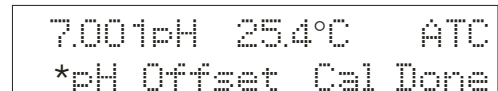

Figure 17
2. When pH reading has stabilized, press **ENTER**. The lower display flashes *\*pH Offset Cal Done*. See **Figure 17**. This calibration point is now stored in the meter.